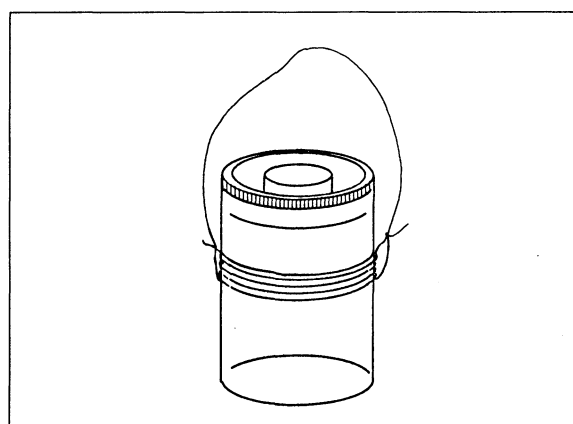

Fig. 1.1 One way of hanging the round tin.
2. Attach the rubber ring and cord to the round tin, as shown in fig. 1.1. Then fasten the cord (15 cm) to the weight.